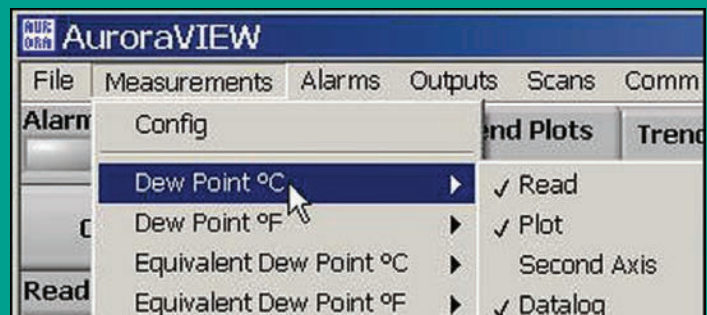

Figure 57: Other measurement options
**NOTE:** The other options under measurements are for individual unit types and perform the same function as checking a box under the config pop-up window (see Figure 57 below).